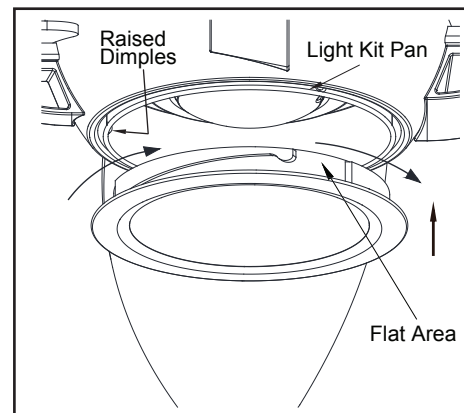

Figure 16
5. Place the shatter-resistant bowl into the light kit pan, aligning the three flat areas on the top of the shatter-resistant bowl with the three raised dimples in the light kit pan. Turn the shatter-resistant bowl clockwise until it stops. (Figure 16)